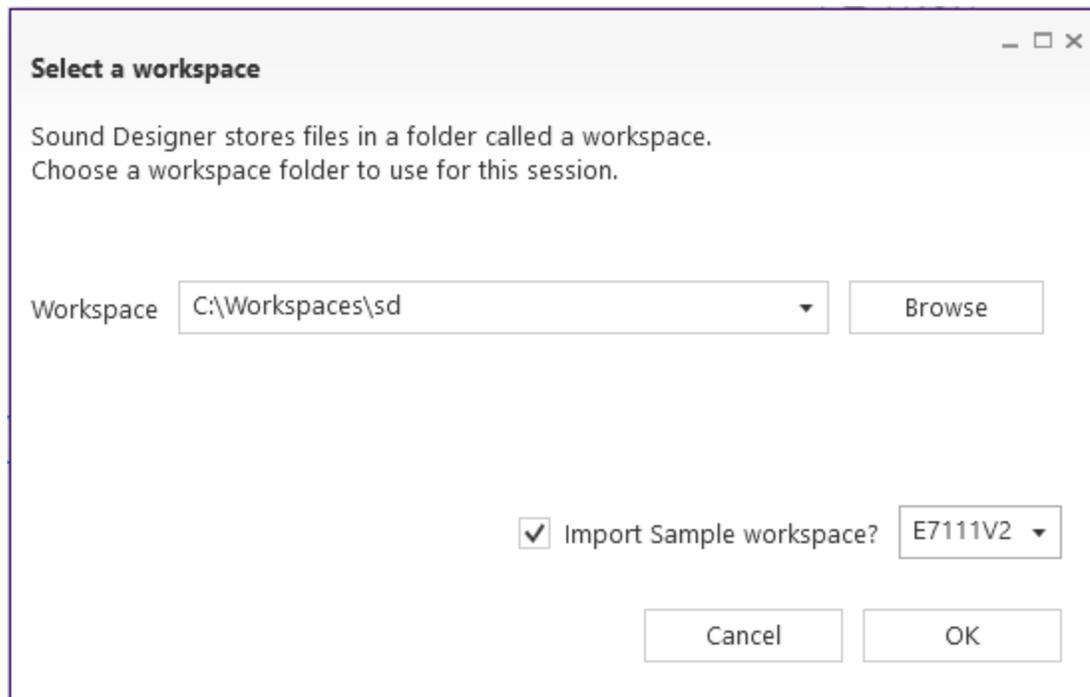

Figure 6. Selecting a Workspace
3. When the **Select a Workspace** dialog box appears, you need to choose a workspace to for Sound Designer Software. For new installations, we highly recommend selecting an empty directory for the workspace. Errors might occur if opening a workspace created using an earlier version of the Sound Designer Software Application. To create a workspace, click **Browse** and the software allows you to create one. If you click **Browse** and select a pre-existing directory for your workspace, make sure it is empty. To begin working with the Ezairo 7111 V2, check **Import Sample Workspace**, and select **E7111V2** from the drop-down list. Click **OK**. (See the figure "Selecting a Workspace" (Figure 6).)